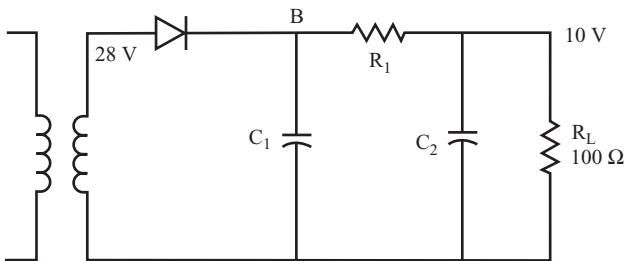
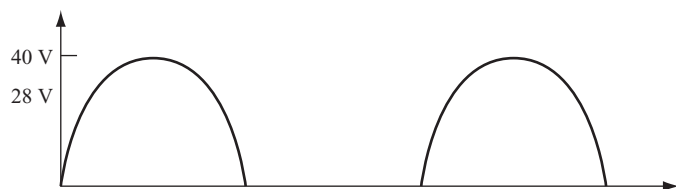

FIGURE 11.40
FIGURE 11.41
- 19** The output from the secondary coil of the circuit shown in Figure 11.40 is a  $28\text{ V}_{\text{rms}}$ , 60 Hz sine wave. For this circuit, you need 10 volts DC across the 100-ohm load resistor.
**20** Figure 11.41 shows the waveform after the diode has rectified the sine wave for the half-wave rectifier circuit shown in Figure 11.40.
**21** The average DC voltage at point B in the circuit shown in Figure 11.40 is approximately 90 percent of the peak value of the sine wave from the secondary coil, or  $V_B = 0.9 \times 40 \text{ volts} = 36 \text{ volts}$ .  $R_1$  and  $R_L$  act as a voltage divider to reduce the 36-volt DC level to the required 10 volts DC at the output.